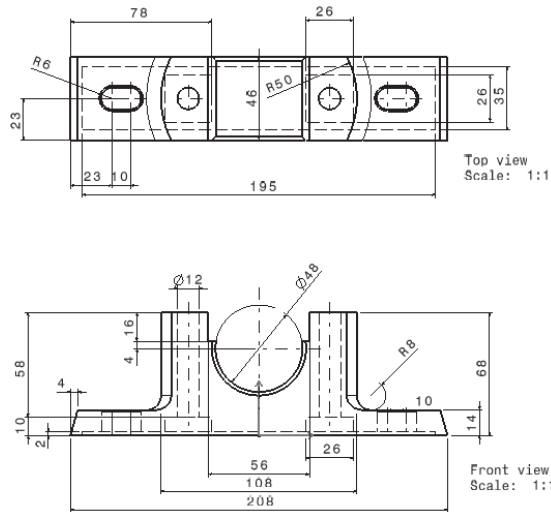

Figure 13-36 Drawing sheet after arranging dimensions
- Arrange the dimensions and delete the unwanted ones, refer to Figure 13-36.
10. Select the dimensions one by one and drag them to the desired location, refer to Figure 13-36.